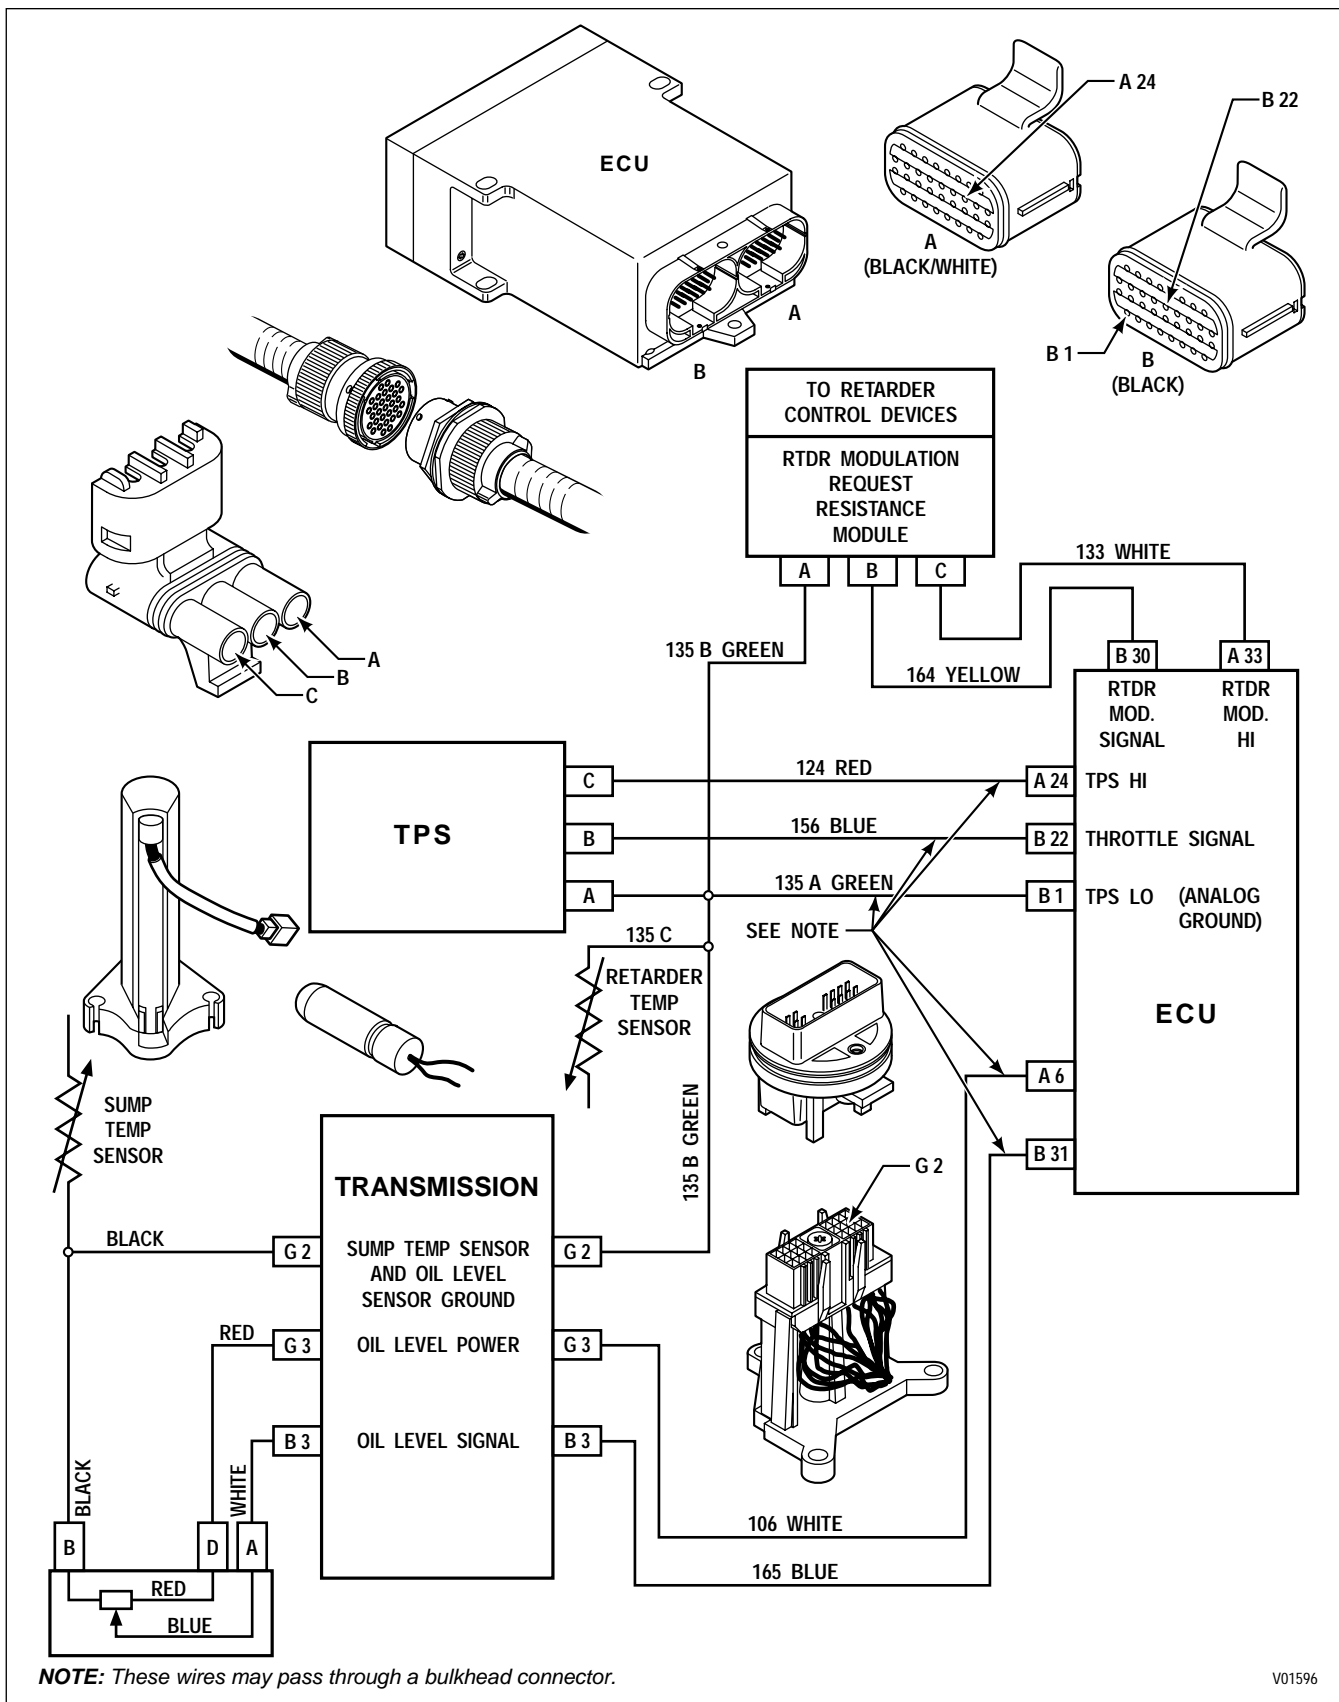

Figure 6-3. Code 14 Schematic Drawing (Units Produced Prior To 9/94)
## CODE 14 XX — OIL LEVEL SENSOR (OLS) (*Figures 6-3, 6-4*)
**CODE 14 XX — OIL LEVEL SENSOR (OLS)** (*Figures 6-3, 6-4*)**Troubleshooting:**